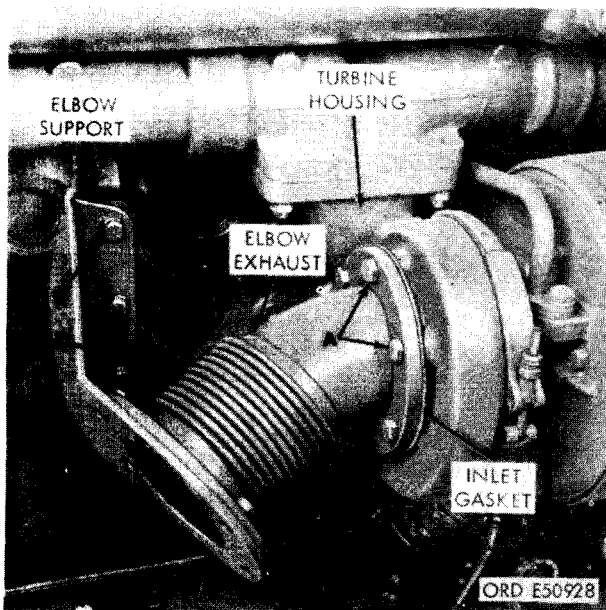

FIGURE 46. REMOVING OR INSTALLING TURBOSUPERCHARGER EXHAUST ELBOW AND SUPPORT (LATE MODEL ENGINES).
- (3) Figure 46. (A) Remove six 3/8 x 1 cap screw securing turbosupercharger exhaust elbow to turbosupercharger turbine housing. (B) Remove three 3/8 x 3/4 cap screws and 3/8-inch lock washers securing turbosupercharger exhaust elbow support to cylinder and crankcase. (C) Remove exhaust elbow and support. Remove and discard turbosupercharger exhaust elbow inlet gasket.